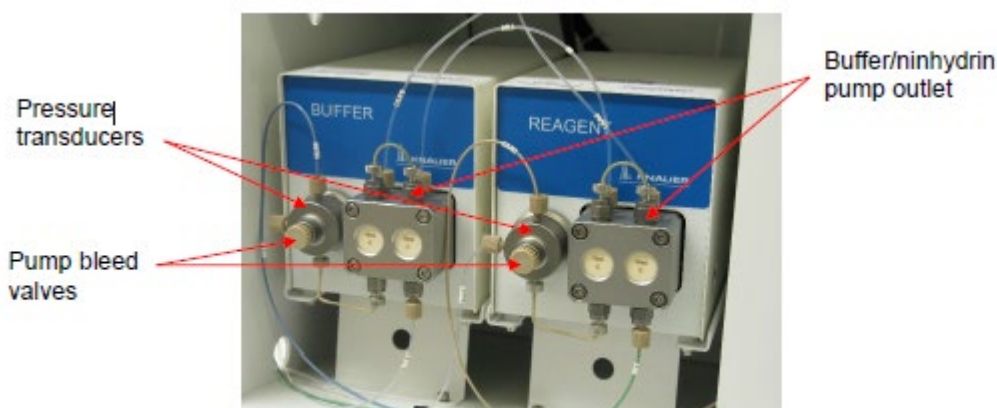

Figure 5.1 Buffer/Reagent Pumps with integrated pressure transducers
3. Open the pump bleed valve located on the integrated pressure transducer on the front of the pump by turning the knob anticlockwise (see fig 5.1).
2. Remove the buffer outlet tubing by unscrewing the fingertight connector from the top of the outlet check valve (See figure 5.1).
2. Open the ninhydrin pump bleed valve located on the front of the ninhydrin pump by turning the knob anticlockwise (see fig 5.1).